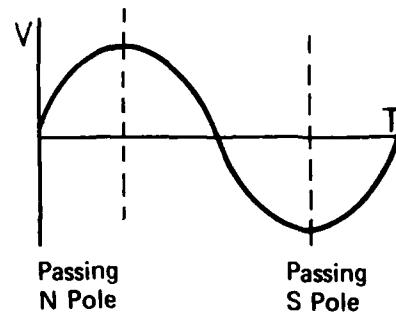

Figure 38
- The voltage generated in the coils reverses itself each time that it passes a different pole. This would cause alternating current to flow. (See Figure 38)